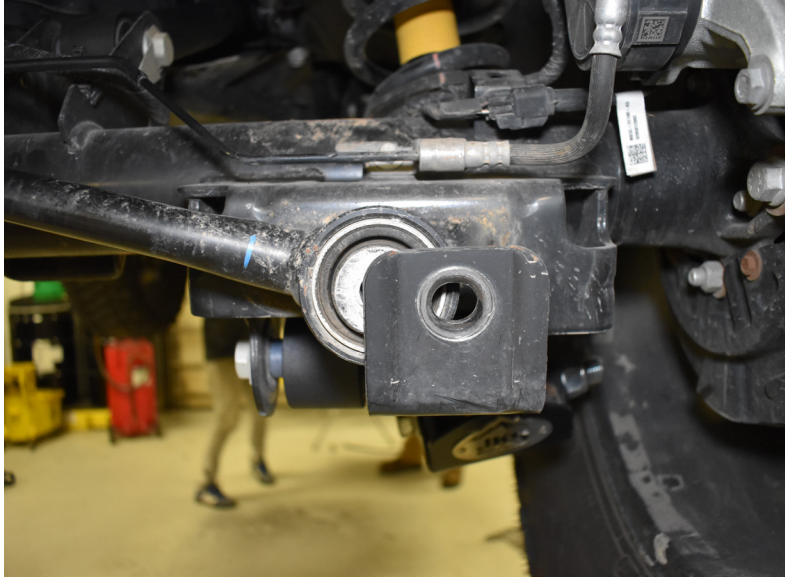

FIGURE 1
4. Disconnect the rear track bar by removing the axle side bolt. **Fig. 1.**